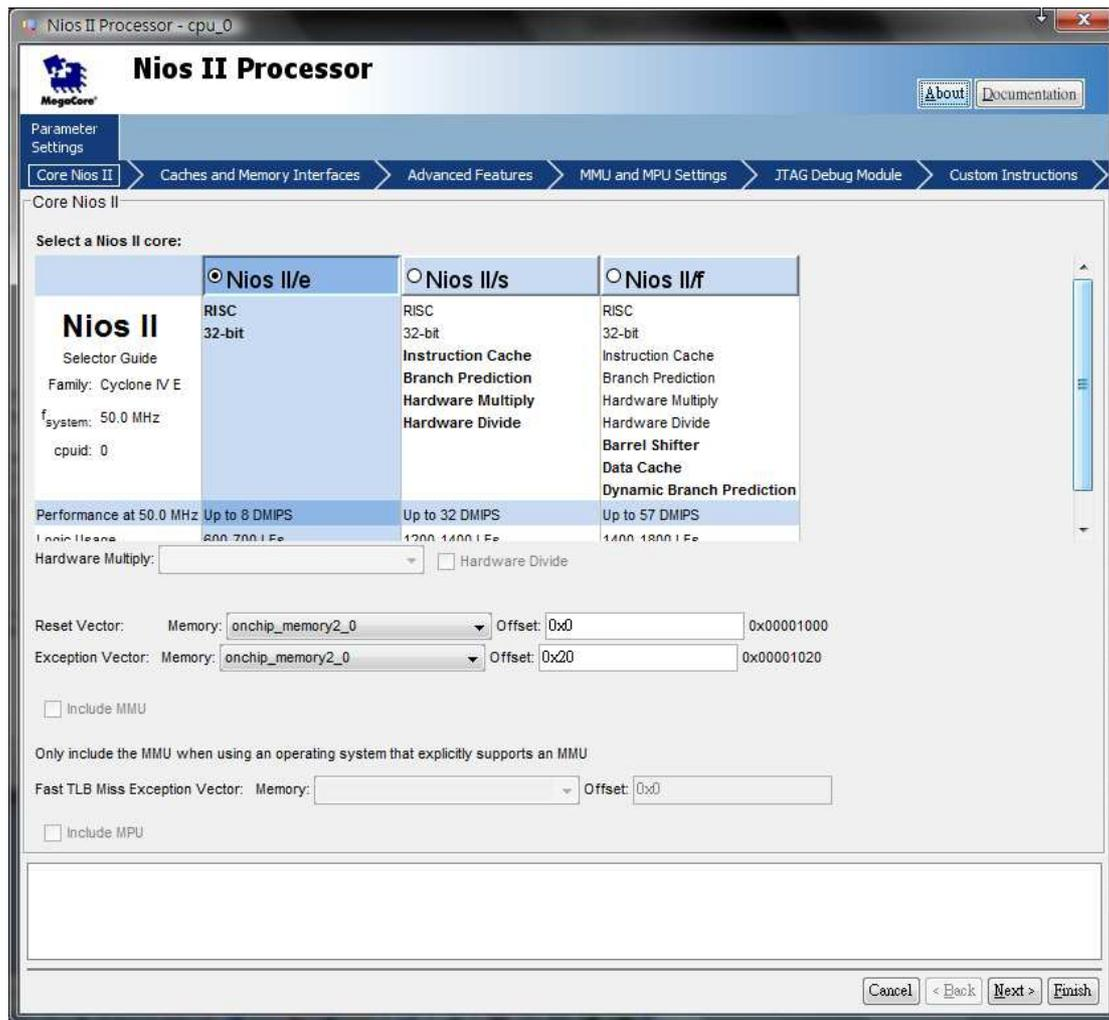

Figure 16.Generation of the system.
13. Having specified all components needed to implement the desired system, it can now be generated. Select the System Generation tab, which leads to the window in Figure 16. Turn off Simulation – Create simulator project files, because in this tutorial we will not deal with the simulation of hardware. Click **Generate** on the bottom of the SOPC Builder window. The generation process produces the messages displayed in the figure. When the message “SUCCESS: SYSTEM GENERATION COMPLETED” appears, click **Exit**. This returns to the main Quartus II window.